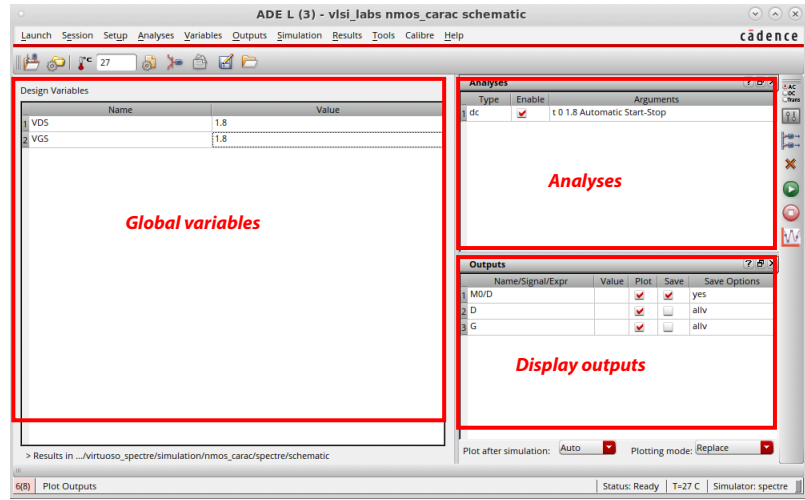

Figure 1.10: ADE L window.
1. Launch the simulation environment (*Launch -> ADE L*). The ADE L window should appear (Fig. 1.10). The **global variables** is where all your design variables are defined (transistor width or length, source voltages, *etc.*). Note that only the variables you define as a parameter in your schematic can be used as global variable. The **analyses** panel defines the different analyses you will run on your schematic (transient, DC, AC, *etc.*). The **display outputs** is where you choose which output (voltage, current, parameter) will be displayed after the simulation.
4. Select which outputs you want to plot (*Outputs -> To Be Plotted -> Select On Design*). The schematic window should appear. Select the gate and drain voltage as well as the drain current. Your ADE window should look like the one on Fig. 1.10.